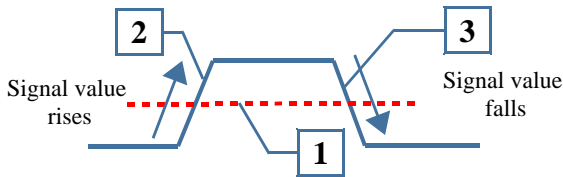

Figure 11.5
- *Triggering event:* The basic parameters of a triggering event are selection of triggering level and edge (Figure 11.5). Triggering event is defined by a voltage level (value which the signal must reach - 1) and edge type (whether the measurement starts while it rises - 2, or while it falls - 3).